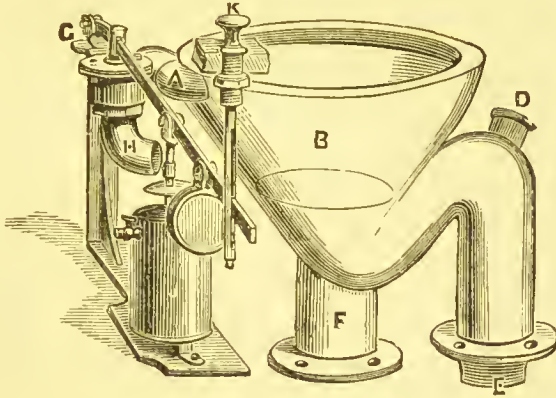

FIG. 83.—View of "Vortex" Closet with Valve and Regulator Apparatus.\*
(2) It can also be supplied by a *Valve and Bellows-regulator* arrangement, as shown in Fig. 83, but the size of the valve, H, is of great importance. A 2 in. valve, as shown at H, giving a clear water-way, in its smallest part, of  $1\frac{5}{8}$  in. full, is made to go with the closet, when the cistern which is to supply it is only 4 or 5 ft. above the seat. But when the cistern stands 6 ft. or 7 ft. above the